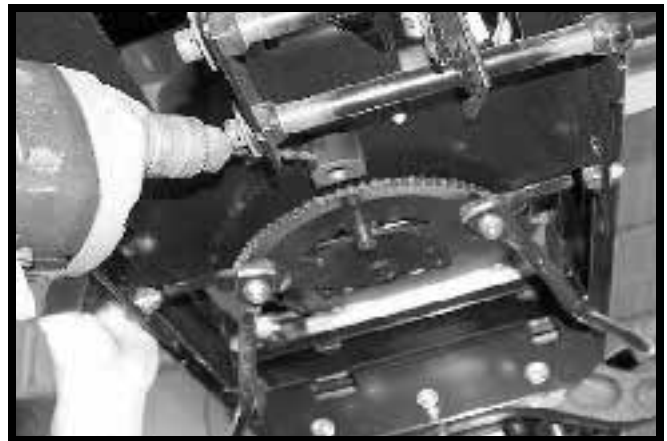

FIGURE 5
12. Using a 3/8" drill. Drill a 3/16" hole in the position shown in FIGURE 5 of the steering housing. Try to drill as close to 90 degrees to the center of the bore line as possible. Placement of the hole for ease of greasing with a grease gun should be taken into consideration.